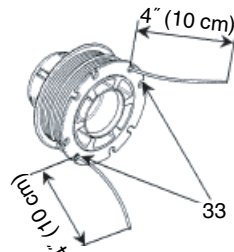

Fig. 39
- (4) Push each line into the stopper holes (33), leaving the loose ends approx. 4" (10 cm) in length. (Fig. 39)